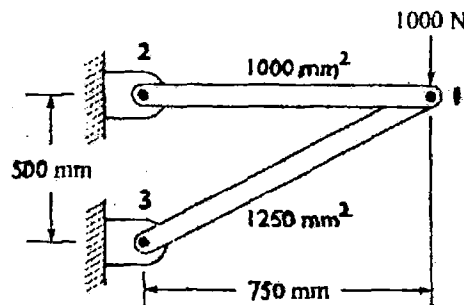

Fig.1
12. (a) Fig.1 shows the pin-jointed configuration. Determine the nodal displacements and stresses in each element. (16)